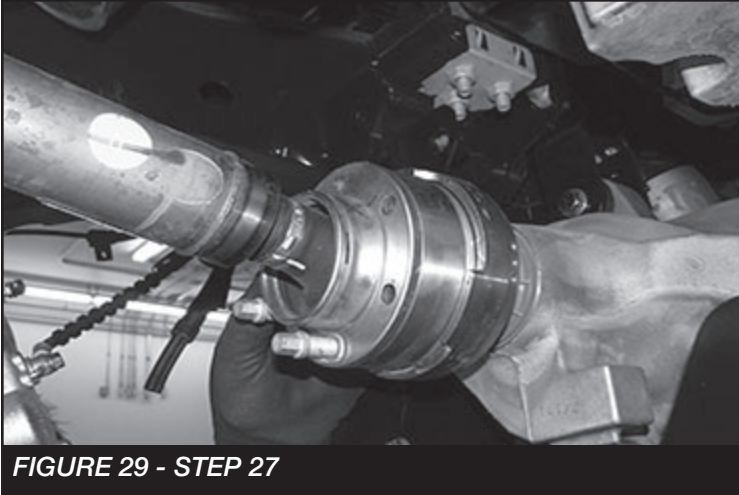

FIGURE 29 - STEP 27
27. Reinstall the front drive shaft with the factory hardware and torque to 35 ft-lbs. **SEE FIGURE 29**